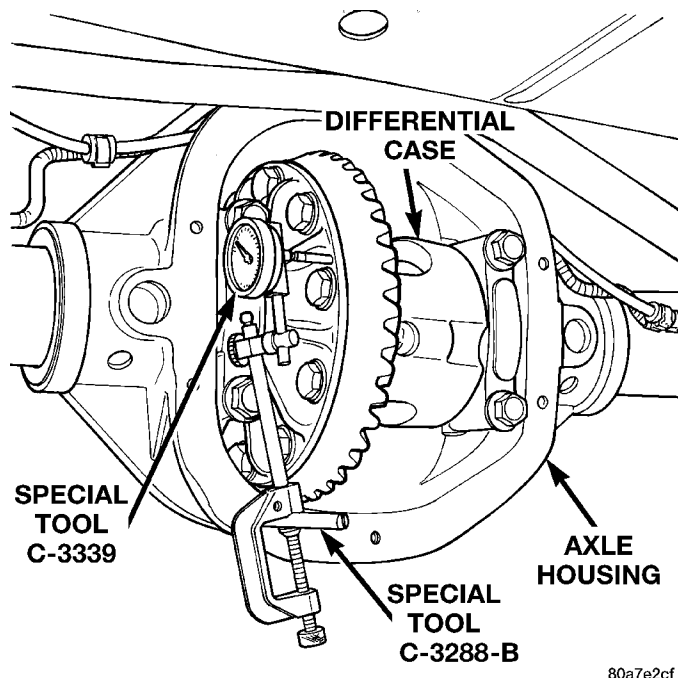

Fig. 71 Differential Side play Measurement
(8) Thread guide stud C-3288-B into rear cover bolt hole below ring gear (Fig. 71).
(9) Attach a dial indicator C-3339 to guide stud. Position the dial indicator plunger on a flat surface between the ring gear bolt heads (Fig. 71).
(20) Position the dial indicator plunger on a flat surface between the ring gear bolt heads. (Fig. 71).